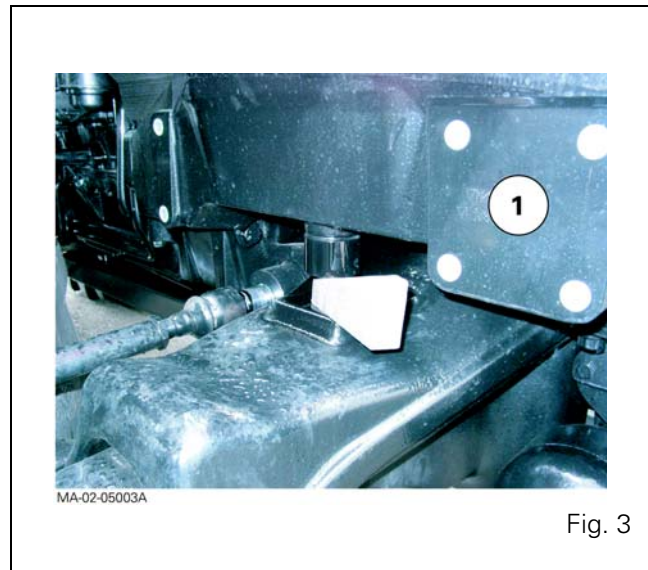

Fig. 3
### 20. Cancel the front axle oscillation (all versions) by sliding a suitable chock in at each side of the support (1) (Fig. 3).